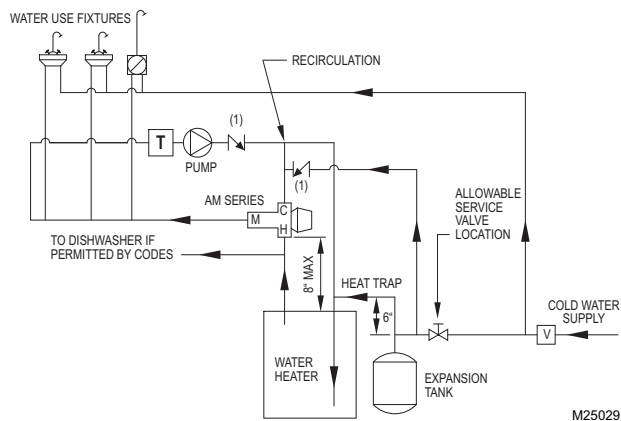

Fig. 5. Water Heater With Recirculation.
- Install recirculation pump between last fixture and water heater, as shown in Figures 5 and 6.